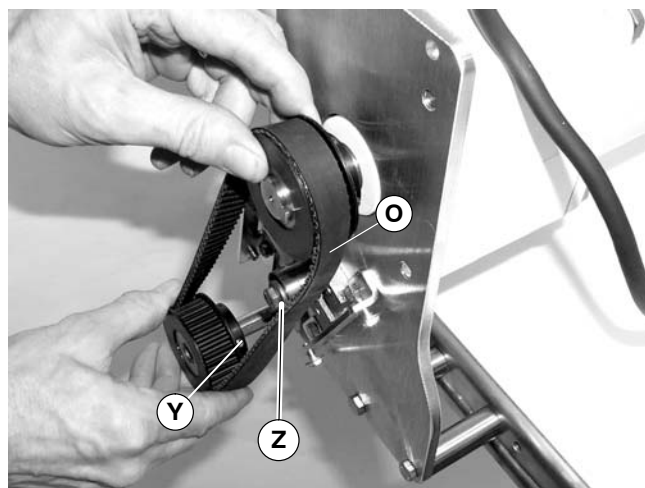

Figure 21
2. Loosen tensioner (Z of Figure 21).
NOTE: If timing belt does not slide over pulley flange, loosen two driven pulley set screws (Y of Figure 21) and remove pulley with belt. For installation, see steps 6 and 7 on page 6.